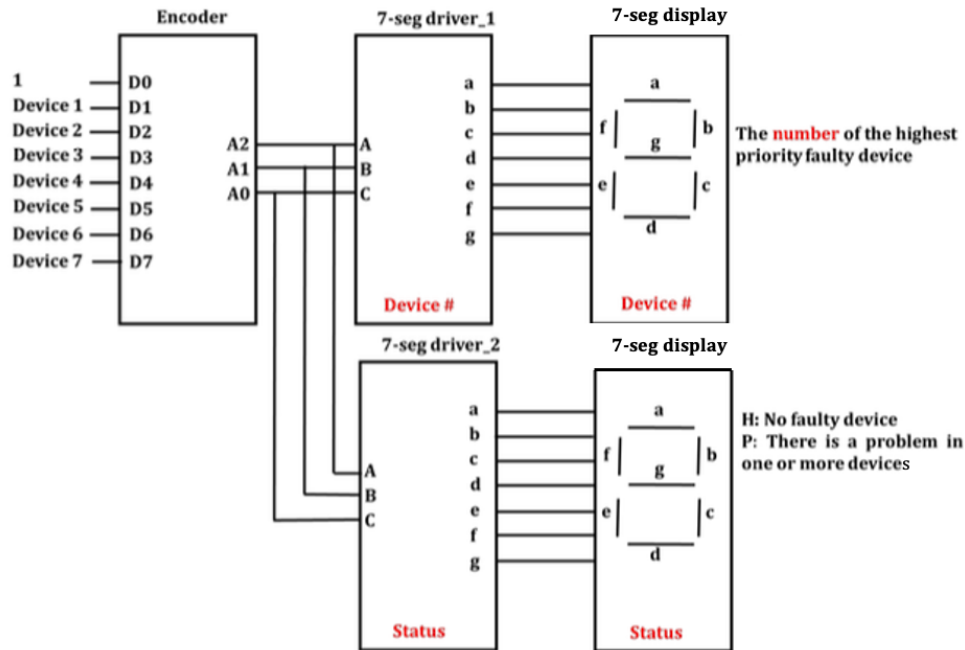

Figure 1: Monitoring System Block Diagram
You are requested to design a system that monitors 7 digital devices in your home. Each of these devices continuously sends a signal to the system to report its status. The device sends logic '0' if it is working properly; otherwise, the device sends logic '1' to indicate that it is not working and needs to be fixed. The monitoring system uses two seven segment displays to show the status of these devices and the number of the faulty device, if any, as shown in Figure 1.
- Fill the truth table for the "**Device #**" 7-segment **driver/decoder** given in Figure 1 assuming **common-anode** 7-segment display:
- a) Fill the truth table for the "**Status**" 7-segment **driver/decoder** given in Figure 1 assuming **common-anode** 7-segment display: